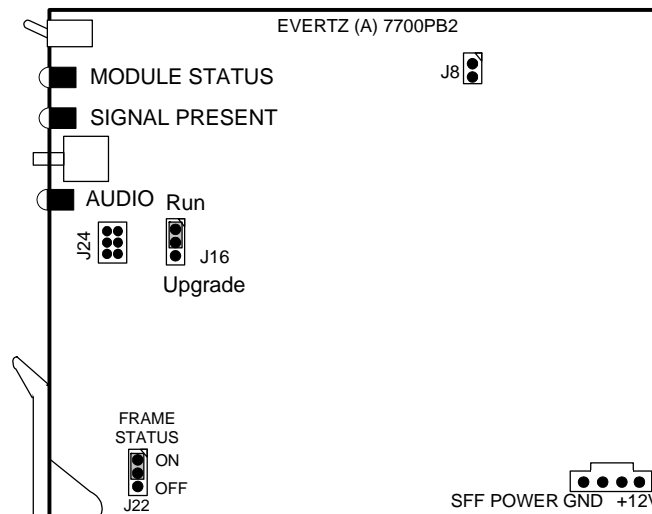

Figure 1-2 : Location of UPGRADE Jumper on Rev A and Later 7700PB and 7700PB2 Boards
2. Connect the 7700PB Serial Upgrade cable to the 2 row x 3 pin header as shown in Figure 1-2. Install the cable with the ribbon cable towards the front of the board. For other models see the jumper location drawing in the manual chapter for the module.
3. Move jumper J16 to the UPGRADE position as shown in Figure 1-2. For other models see the jumper location drawing in the manual chapter for the module.